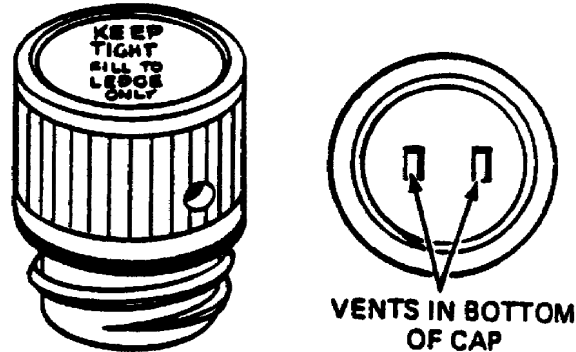

Figure 2-2. Vent Cap (Plug).
(2) Inspect filler caps. Check to see that the caps are not damaged or broken and that the gasket is present. Some filler caps have a built-in gasket made of the same material as the cap. The gasket is tapered from the outside edge toward the center of the cap to provide a tight seal with the case. Make sure the vent holes in the caps (Figure 2-2) are open to permit escape of gases. Replace all caps that are defective.